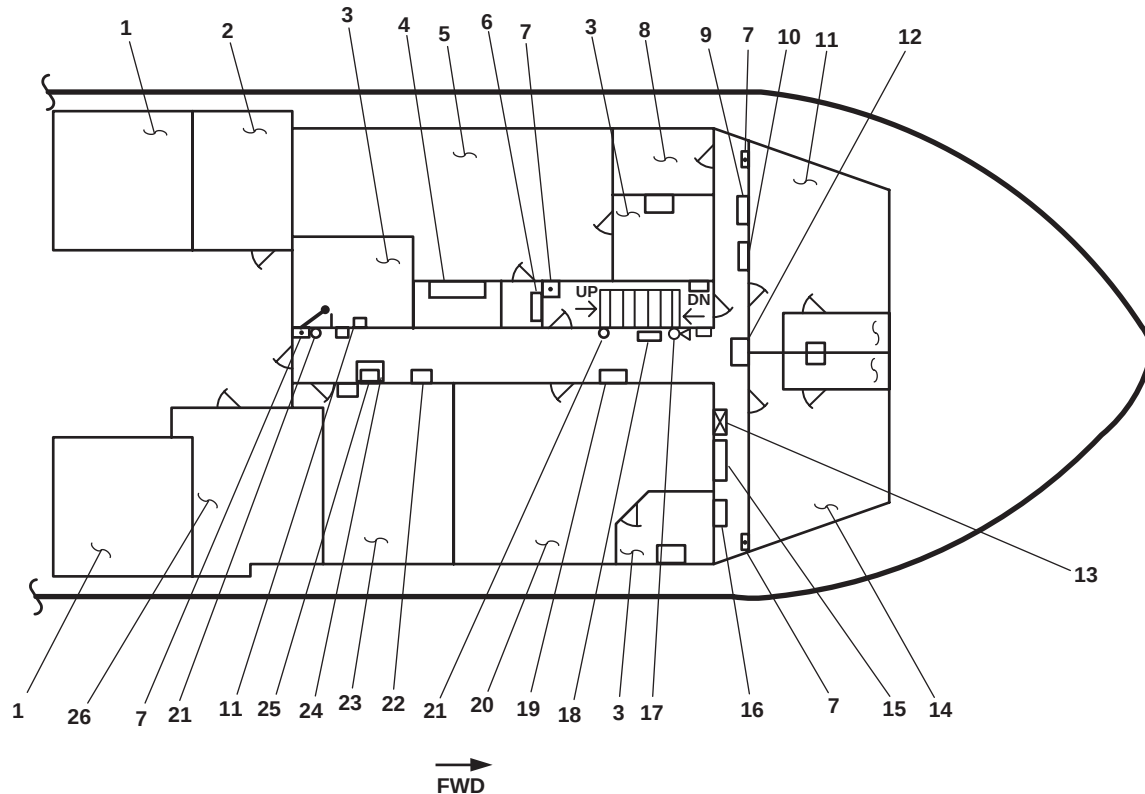

Figure 1. 01 Level Interior
1. Stack (figure 1, item 1). The stack contains the engine exhaust and crankcase vents.
2. Aft fan room (figure 1, item 2). The aft fan room contains Heating, Ventilation, and Air Conditioning (HVAC) and electrical equipment. See figure 2 for details.
3. Sanitary Space (figure 1, item 3). This space contains sanitary facilities, including a water closet, a sink, and a shower.
4. Medical locker (figure 1, item 4). The medical locker provides storage space for medical supplies.
5. Officer's stateroom 2 (figure 1, item 5). The officer's stateroom 2 provides accommodations for four officers. See figure 3 for details.
6. 120V pilothouse emergency distribution panel (figure 1, item 6). This panel provides 120 volts to various navigation system components, the windscreen elements, the intercom system, and the port and starboard search light power supplies.
7. Fire alarm pull station (figure 1, item 7). This fire alarm pull station immediately alerts the crew to the presence of fire when the lever is pulled.
8. Forward fan room (figure 1, item 8). The forward fan room contains HVAC and electrical equipment. See figure 4 for details.
9. 01 & 02 level reheater 120V fuse box No. 1 (figure 1, item 9). This fuse box provides fused protection for 01 and 02 level reheaters.
10. Convector heater 120V fuse box No. 2 (figure 1, item 10). This fuse box provides fused protection for 01 and 02 level convection heaters.
11. Chief Engineer's stateroom (figure 1, item 11). This is the berthing space for the chief engineer. See figure 5 for details.
12. Drinking fountain (figure 1, item 12). The drinking fountain supplies chilled potable water for personal consumption.
13. Fire station 8 (figure 1, item 13). Fire station 8 is equipped with 50 feet (15.2 m) of 1-1/2 inch fire hose and an all-purpose nozzle.
14. Captain's stateroom (figure 1, item 14). This is the berthing space for the vessel master. See figure 6 for details.
15. 120V distribution panel No. 2 (figure 1, item 15). This distribution panel contains circuit breakers for many of the non-critical electrical circuits on the 01 level.
16. 220V air conditioning distribution panel (figure 1, item 16). This distribution panel contains circuit breakers for the pilothouse and radio room rooftop air conditioning units.
17. General alarm bell (figure 1, item 17). The general alarm bell signals various emergency conditions on the vessel.
18. Fire axe (figure 1, item 18). The fire axe is used to aid the crew in gaining immediate access to a locked or enclosed area in the case of fire.
19. Key cabinet (figure 1, item 19). The key cabinet provides secure storage for up to 75 keys.
20. Officer's stateroom 1 (figure 1, item 20). The officer's stateroom 1 provides accommodations for four officers. See figure 7 for details.
21. Fire extinguisher (figure 1, item 21). The portable dry chemical fire extinguisher is used to extinguish fires on the 01 level.
22. 120V exterior emergency lighting panel No. 2 (figure 1, item 22). This panel contains circuit breakers for many of the emergency circuits on the 01 and 02 levels.
23. NCO stateroom (figure 1, item 23). This space provides berthing for two NCOs. See figure 8 for details.
24. General alarm system distribution panel (figure 1, item 24). This panel provides a junction box to interconnect general alarm system cables.
25. General alarm contact maker (figure 1, item 25). The general alarm contact maker controls sounding of the general alarm bells.
26. Emergency Diesel Generator (EDG) room (figure 1, item 26). This space contains the emergency generator and support equipment. See figure 9 for details.